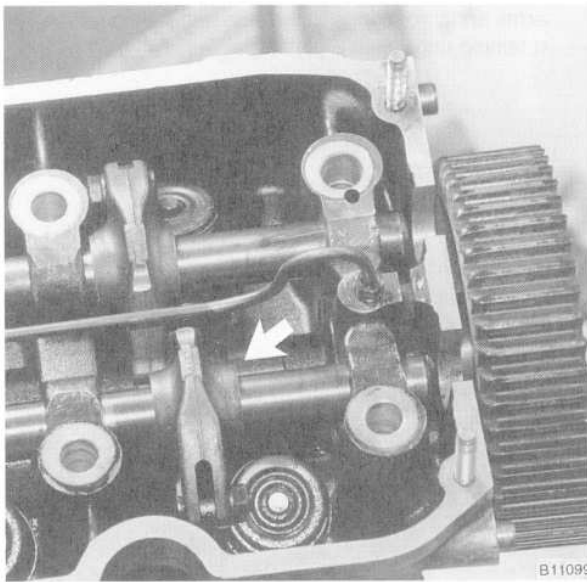

Fig. 21. Rocker arm positioned (arrow) for removal of exhaust-side rocker arm shaft.
- Using the rotor adaptor mounting bolt, rotate the camshaft clockwise until the no. 6 intake and exhaust valves are both open (overlapped). Slide the no. 1 exhaust-side rocker arm off the top of the valve. See Fig. 21.